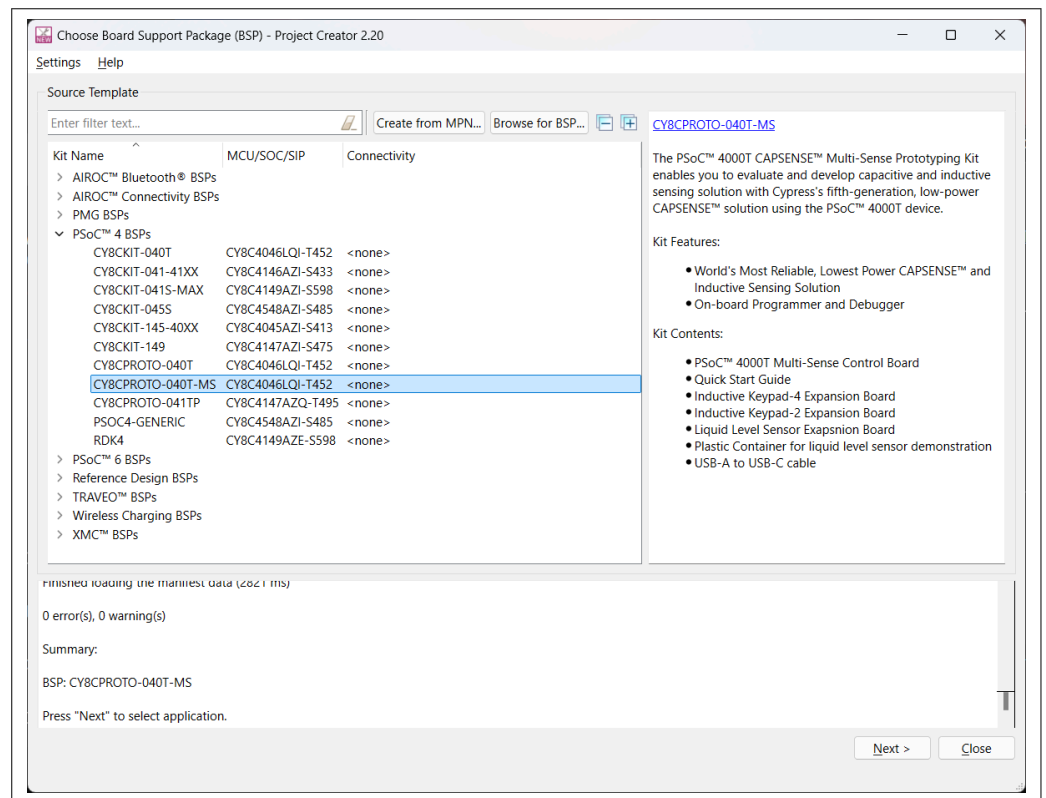

Figure 15 Creating a new application: Choose Board Support Package
- c. Select **CY8CPROTO-040T-MS**, and click **Next**, as shown in Figure 15